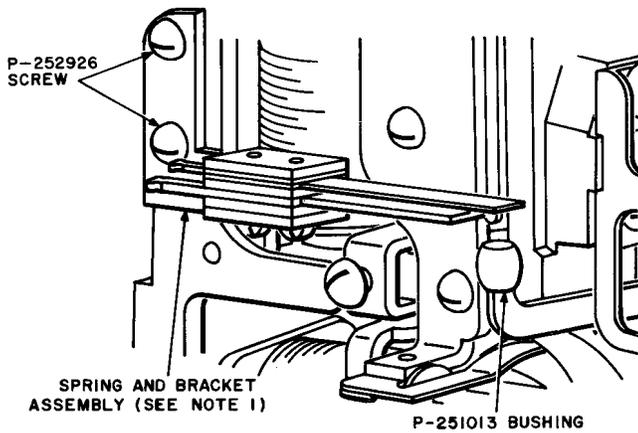

Fig. 3—Vertical Interrupter Spring and Bracket Assembly and Associated Parts Used With Vertical Armature Assembly Having Vertical Armature Arm
NOTES (For Fig. 3, 4, and 5)
1. When replacing the vertical interrupter spring and bracket assembly of the type shown in Fig. 3, order the following parts: